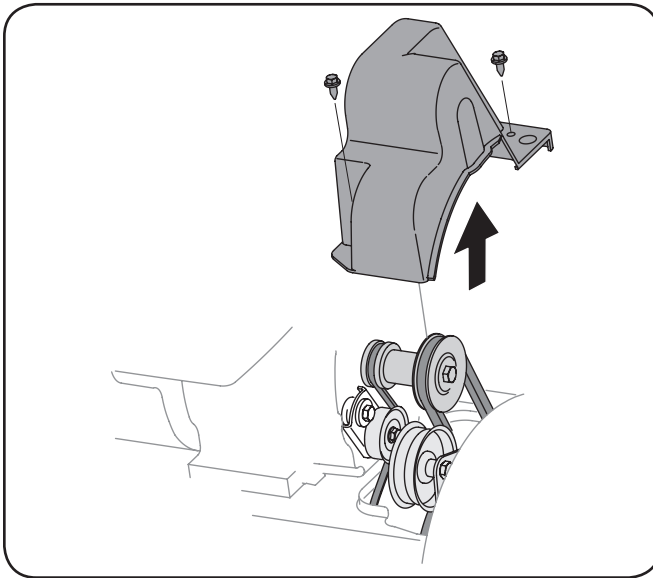

Figure 7-1
2. Remove the plastic belt cover at the front of the engine by removing the two self-tapping screws. See Figure 7-1.
2. Remove the plastic belt cover on the front of the engine by removing the two self-tapping screws. Refer to Figure 7-1.